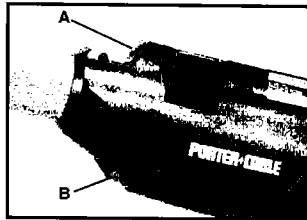

Fig. 4
The Drywall Sander is equipped with a "rocker" type switch (A) Fig. 4. The top end of the switch button is labeled "OFF", and the bottom end of the button is labeled "ON". To start the Sander, press the bottom (ON) end of the switch. To stop the Sander, press the top (OFF) end of the switch.
The **Model 7800** Drywall Sander is equipped with a variable speed control. The speed is adjusted by turning the control knob (B) Fig. 4. The control knob is numbered "1" through "5". The setting "1" is the slowest speed (approximately 1000 RPM) and "5" is the fastest speed (approximately 2,000 RPM).